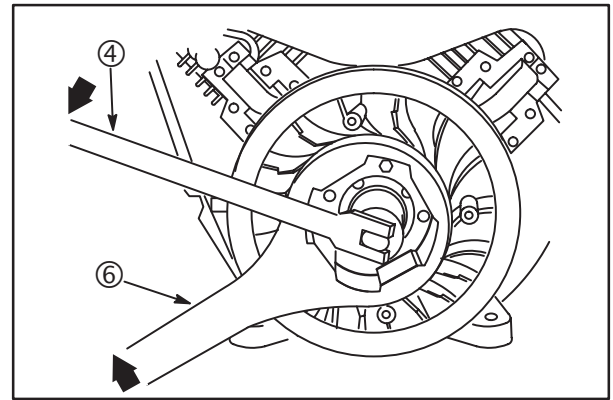

Fig. 15
1. Place Flywheel Holder #19321 (6) on fan retainer with lugs of flywheel holder engaging slots on the fan retainer, **Fig. 15**.